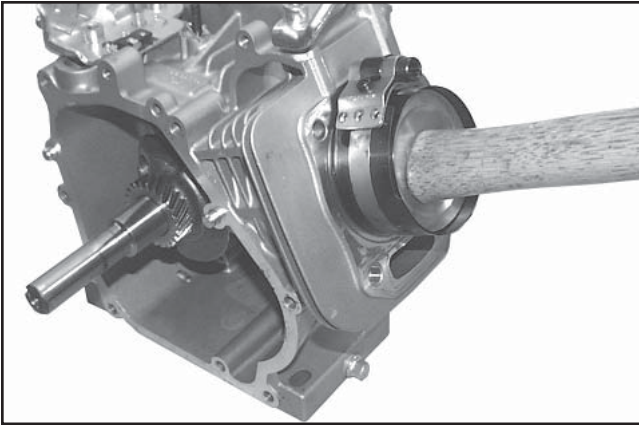

Figure 11-24. Installing Piston Using a Ring Compressor.
5. Ensure "▽" stamping on piston is facing down toward the base of the engine. Use a hammer handle or rounded wood dowel and gently tap the piston into the cylinder as shown in Figure 11-24. Be careful that the oil ring rails do not spring free between the bottom of the ring compressor and the top of the cylinder.